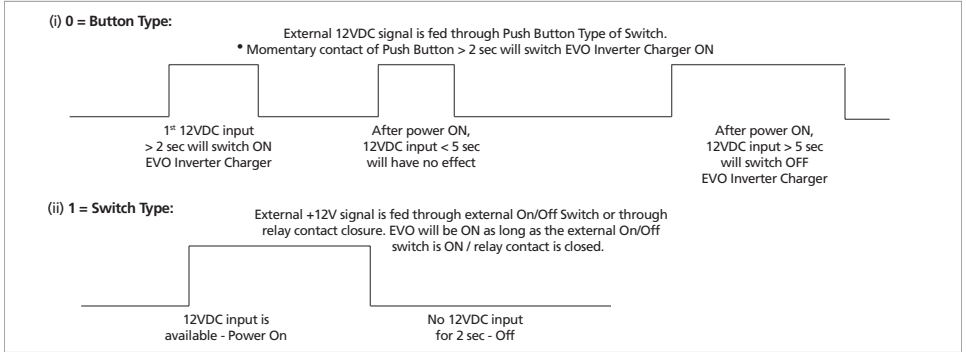

Fig 4.8. On/Off Logic Diagram for Remote Switch Options
This selection is used when ON/OFF control of EVO™ Inverter/Charger is desired through external 12 VDC signal fed to Remote ON/OFF terminals on the Front Panel of EVO™ Inverter/Charger [(i) 15, Fig 2.1 in EVO™ Inverter/Charger Owner's Manual for EVO-2212/3012/2224/4024 and (ii) 16, Fig 2.1 for EVO-1212F/1212F-HW and EVO-1224F/1224-HW] On/Off Logic Diagram is shown in Fig 4.8 below:
1. On/Off Logic shown in Fig 4.8 also controls the operation of the On/Off Button on the front panel of EVO™ Inverter/Charger (11, Fig 2.1 in EVO™ Inverter/Charger Owner's Manual). The Default Setting is "0 = Button".
2. If the On/Off control is changed to external "Remote Switch", it will not be possible to switch On/Off the EVO™ Inverter/Charger from the front panel On/Off Push Button because it will work with Switch Type Logic at Fig 4.8: it will be ON only as long as the Push Button is kept pressed and will switch off when released.
2. Si la commande de On / Off externe est changé en « l'interrupteur à distance », il ne sera pas possible d'activer / désactiver l'onduleur/chargeur EVO™ à partir du panneau avant sur le bouton-poussoir On / Off qu'il travaillera avec le type de commutateur logique à Fig 4.8 : il sera sur qu'aussi longtemps que le bouton est maintenu enfoncé et s'éteint lorsqu'il est relâché.